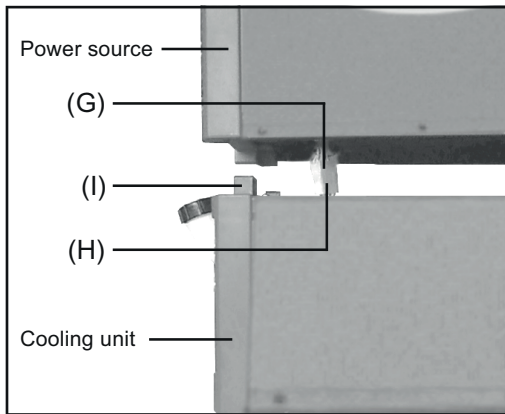

Fig.12 Inserting plug into socket
- 19** Pull the power source connector (H) as far as possible through the opening on the underside of the power source (Fig.12)
- 20** Reconnect plug (G) between power source and cooling unit (Fig.12)
- 21** Carefully place power source onto cooling unit (Fig.12)
- 22** Fasten power source to the cooling unit at the front and back using socket screws (Fig.12)